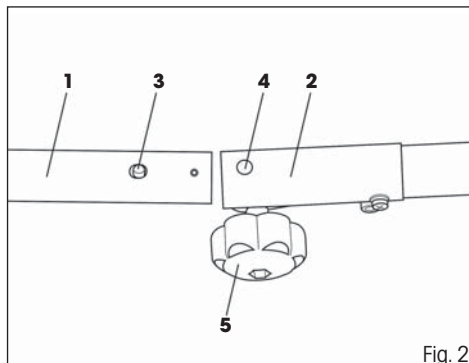

Fig. 2
- ✿ Connect the shaft of the brush cutter (Fig. 2). Insert the bottom part of the shaft (Fig 2, point 1) into the coupling (Fig 2, point 2), which is a part of the top part of the shaft. The locking pin (Fig 2, point 3) must fit into the hole (Fig 2, point 4). Then secure both parts in place by tightening the screw (Fig 2, point 5). For easier transport of the brush cutter, the shaft can again be separated.